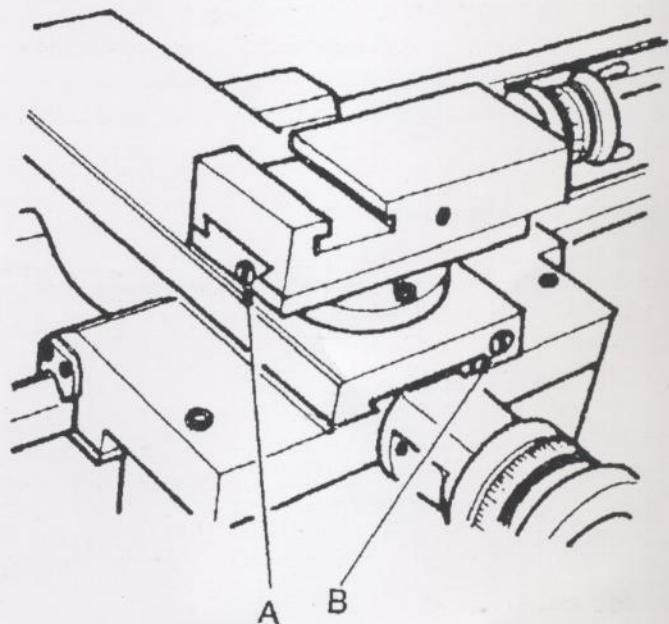

Fig.21
2. Tighten the front gib screw(B, Fig.21)a quarter turn. Turn the cross slide handwheel to see if the cross slide is still loose. If it is still loose, tighten the front screw a bit more and try again.
Follow the same procedure as the cross slide adjustment to adjust the compound rest. Rear gib screw(B) is shown in Fig. 21. **Note:** the front handwheel on the compound will have to be removed to access the front gib screw.